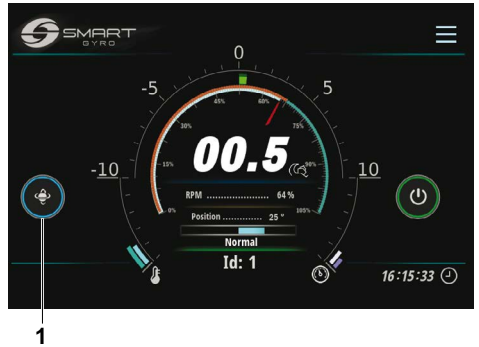

Figure 7
7. After the flywheel speed exceeds 55 % of the top speed, precession is allowed and the circle around the icon goes blue, indicating that precession is unlocked and the sphere is able to oscillate (Figure 7, (1)).